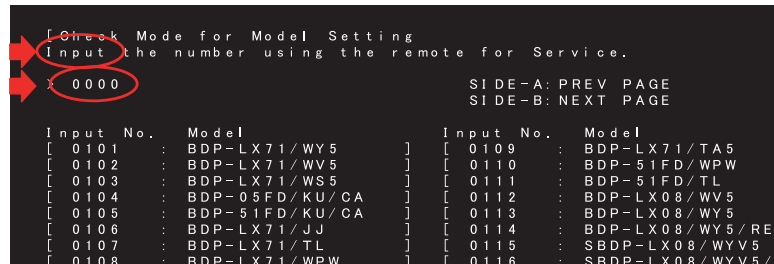

Fig. 2: Screen image 2
- Entering a 4-digit number is possible with the remote control unit for service (Fig. 2).